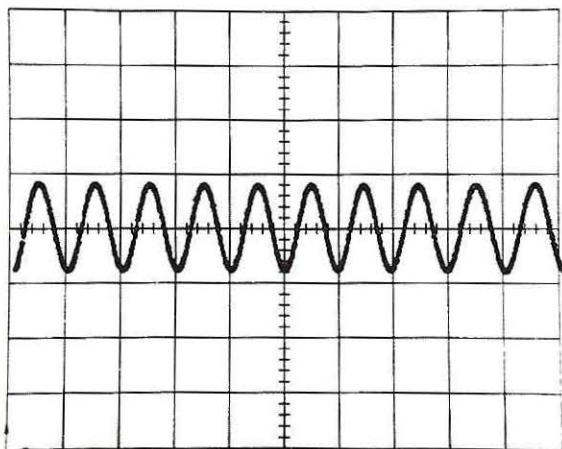

Fig. 7-3. 1 GHz SYNC at 1 ns/DIV.
c. Adjust the 5S14N TRIGGERING LEVEL control to synchronize on a 1 ns sine wave (see Fig. 7-3).
d. Remove the test probe, release the 5A13N DISPLAY button, and check that it is possible to trigger a waveform (see Fig. 7-3) using the 5S14N LEVEL control.